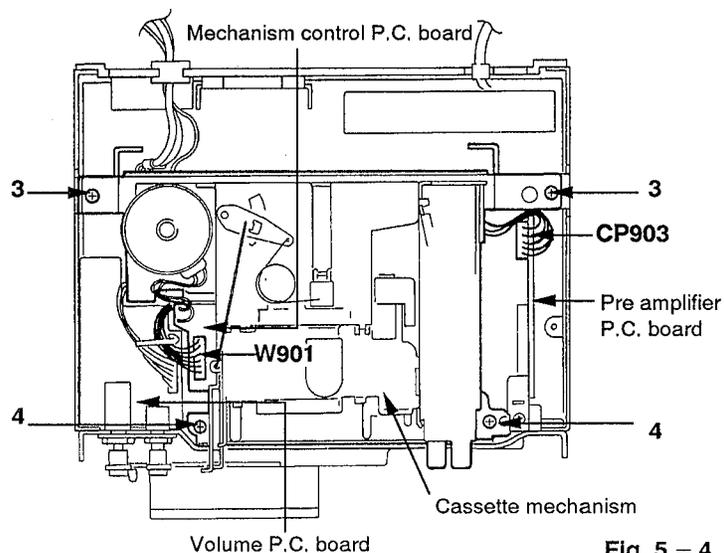

Fig. 5-4
■ Method of removing the cassette mechanism assembly (Refer to Fig. 5-4)